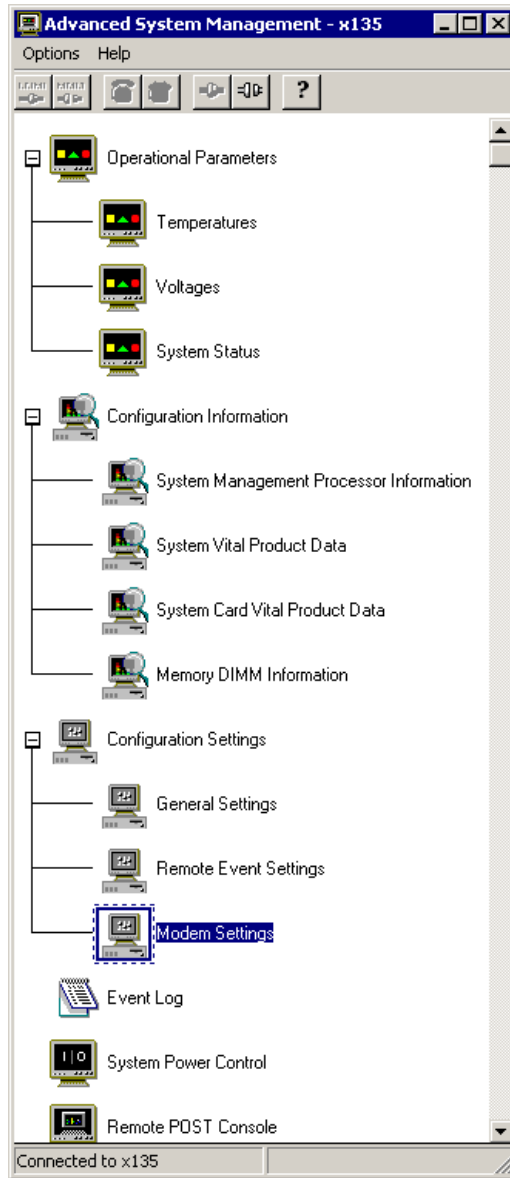

Figure 3-12 Advanced System Management- x135
4. Now you are connected to the service processor on the x135 (see Figure 3-12):